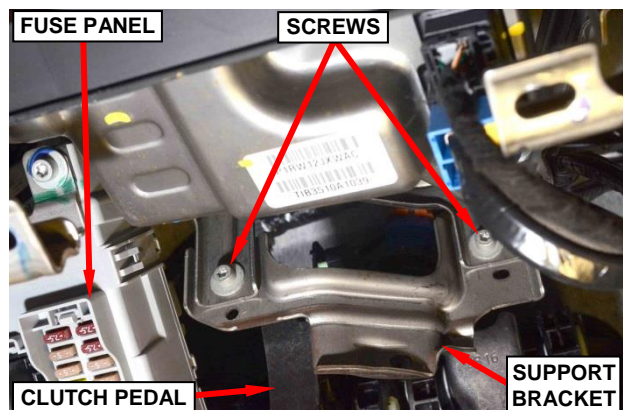

Figure 13 – Instrument Panel Support Bracket
26. Remove and save the two screws from the instrument panel support bracket (Figure 13).
27. Remove and save the instrument panel support bracket (Figure 13).
38. Install the instrument panel support bracket, then install the two bolts. Tighten the bolts to 62 in. lbs. (7 N·m) (Figure 13).